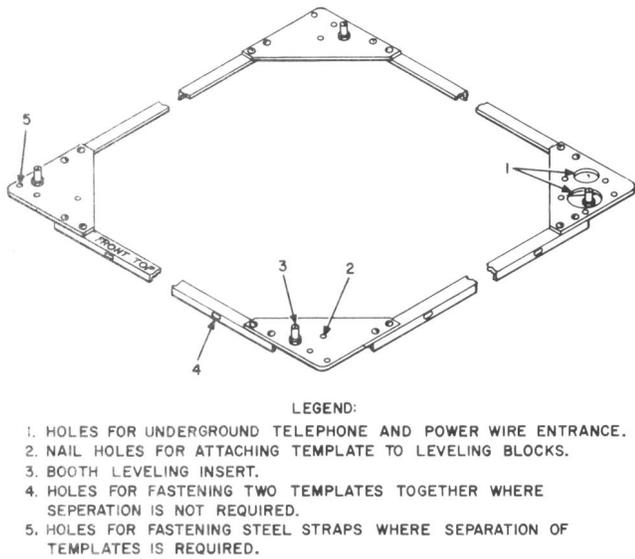

Fig. 11—KS-19580, List 28 Foundation Template
**3.03** When necessary to provide a concrete base, a KS-19580, List 28 foundation template (Fig. 11) is used. Install the template as follows: